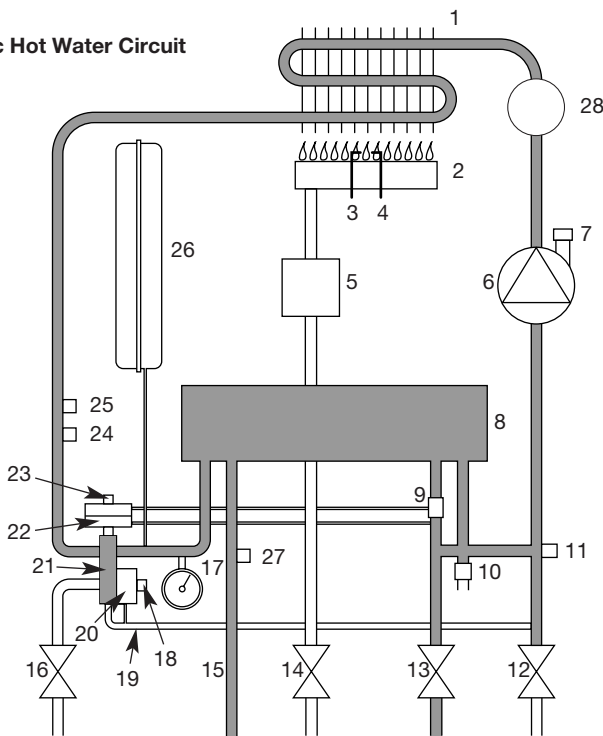

Fig. 3
3.2 Domestic Hot Water Mode (Fig. 3)